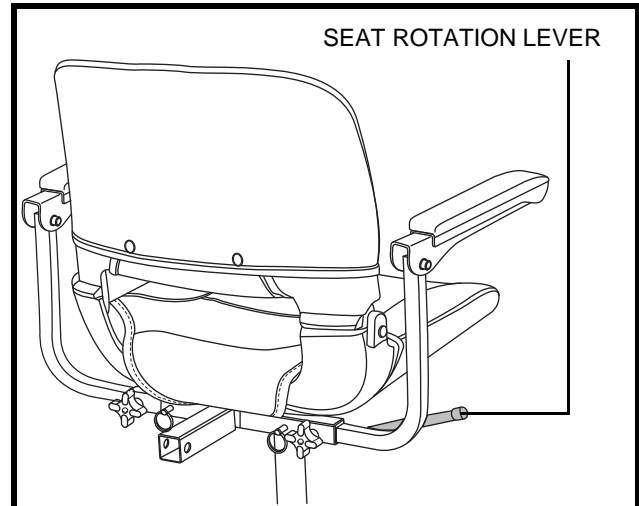

Figure 17. Seat Position Adjustments
1. Pull upward on the seat rotation lever to disengage the seat. **See figure 17 or 19.**